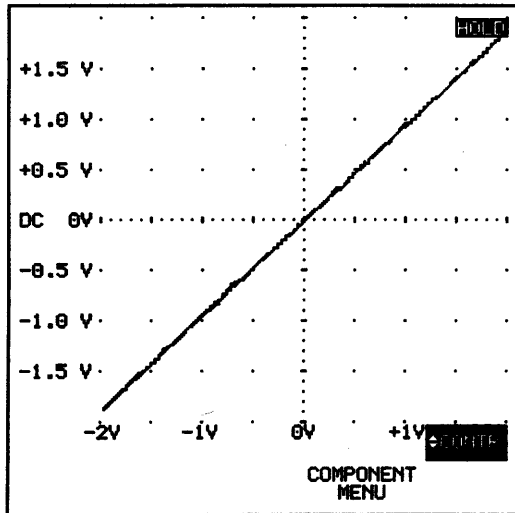

Figure 4.18 Component test voltage sweep
- E Adjust the INPUT A attenuator with the mV-RANGE-V key to 0.5V/div. The display must show a 45x line. See Figure 4.18.